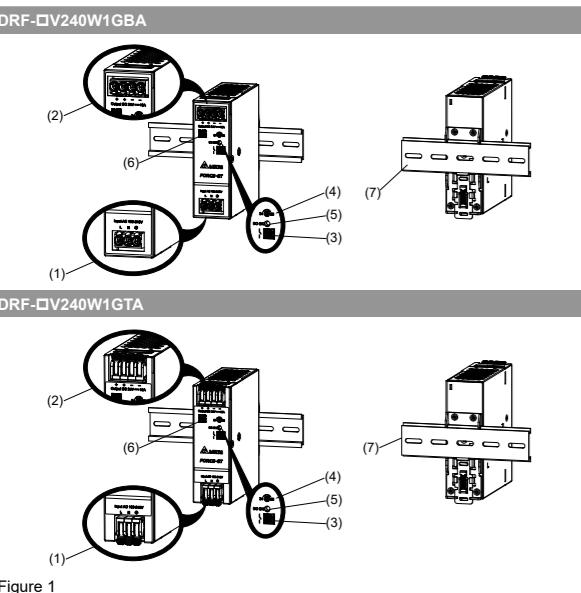

Figure 1
2. Device description (Fig. 1)
4.1. Input connection (Fig. 1 (1), Fig. 6)
Use L, N and PE connections of input terminal connector (see Fig. 1 (1)) to establish the 100-240Vac connection.
4.2. Output connection (Fig. 1 (2))
Use the "+" and "-" screw connections to establish the 12Vdc, 24Vdc or 48Vdc connection. The green LED DC OK displays correct function of the output (Fig. 1 (5)).